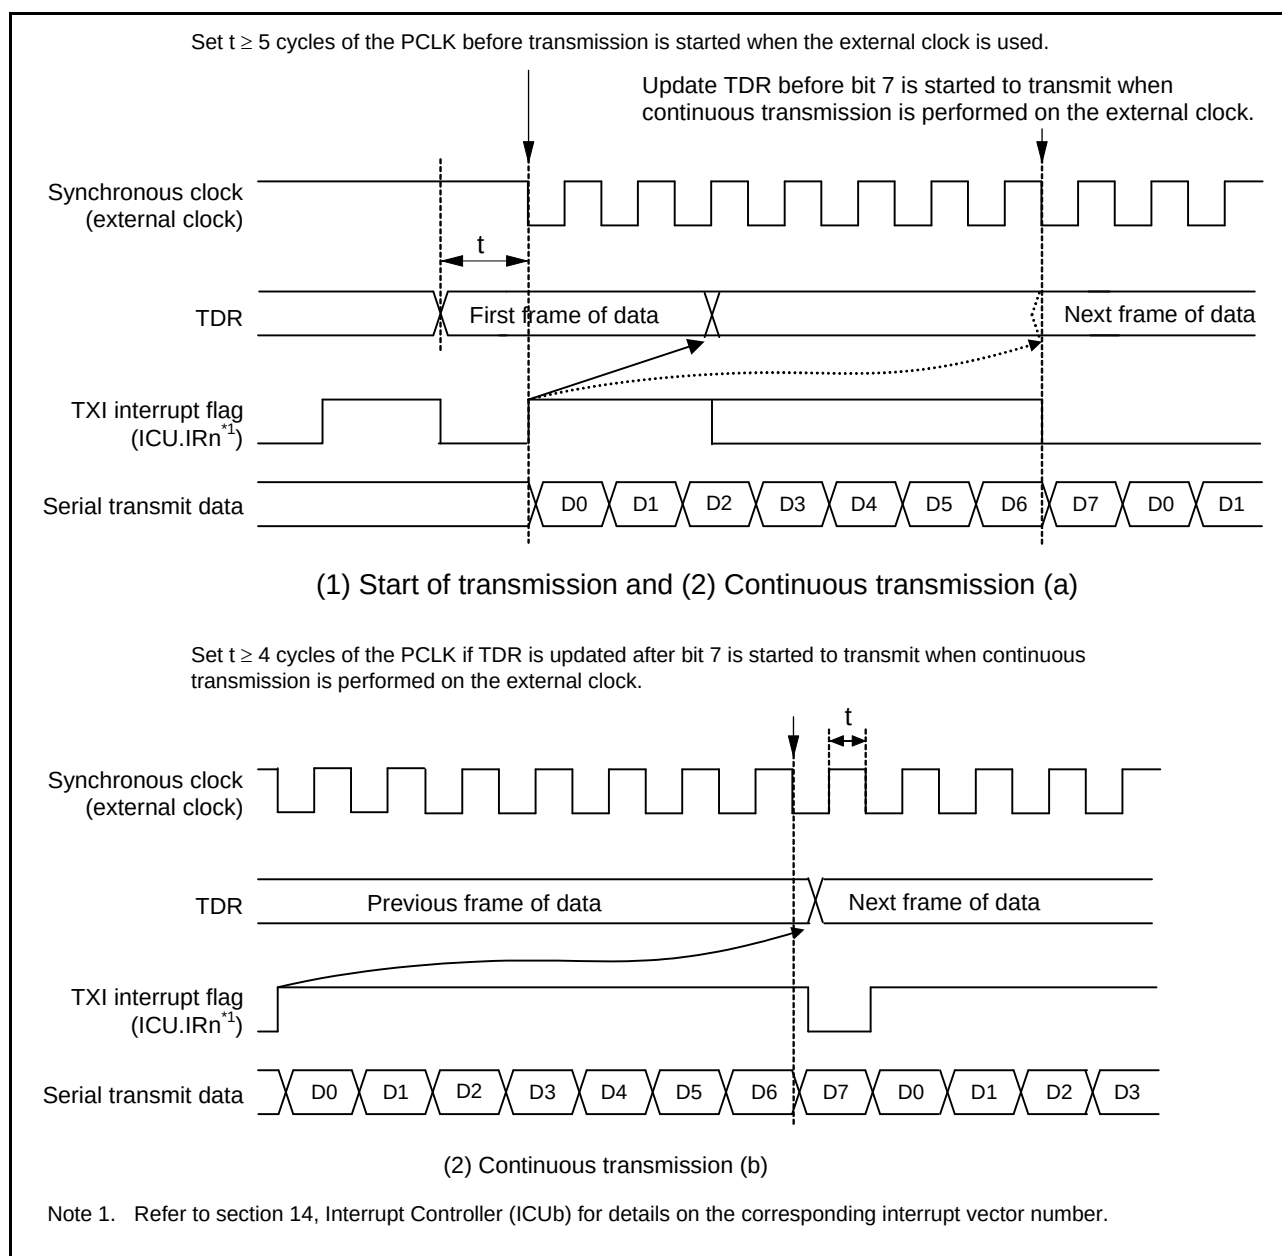

**Figure 23.75 Restrictions on Use of External Clock in Clock Synchronous Transmission**
Update the TDR register by the CPU or DTC and wait for at least five PCLK cycles before allowing the transmit clock to be input (refer to Figure 23.75).
- (a) Write the next transmit data to the TDR or TDRL register before the falling edge of the transmit clock (bit 7) (refer to Figure 23.75).
- (b) When updating the TDR register after bit 7 has started to transmit, update the TDR register while the synchronization clock is in the low-level period, and set the high-level width of the transmit clock (bit 7) to four PCLK cycles or longer (refer to Figure 23.75).